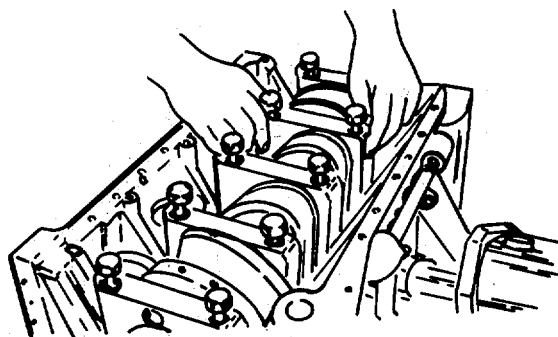

FIGURE 4-73. Install Main Bearings.
- f. Install the sleeve bearing half set (3) (lower main bearings) into the caps. (FIGURE 4-73)